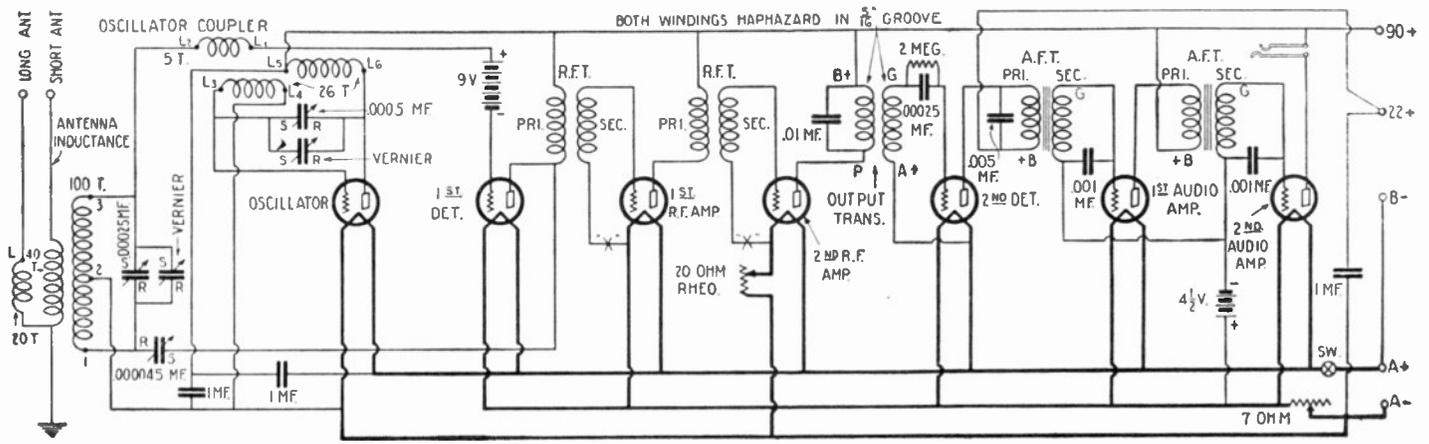

Fig. 92. Complete Schematic wiring diagram of the New Model C-7 Norden Hauck super-heterodyne receiver. Seven tubes are used in a highly efficient circuit.
A. I. The Model C-7 receiver was at one time manufactured by the Norden-Hauck Co., 1517 Chestnut St., Philadelphia, Pa. All information on this receiver published in these columns was kindly furnished by this company. The schematic wiring diagram will be found in Fig. 92.